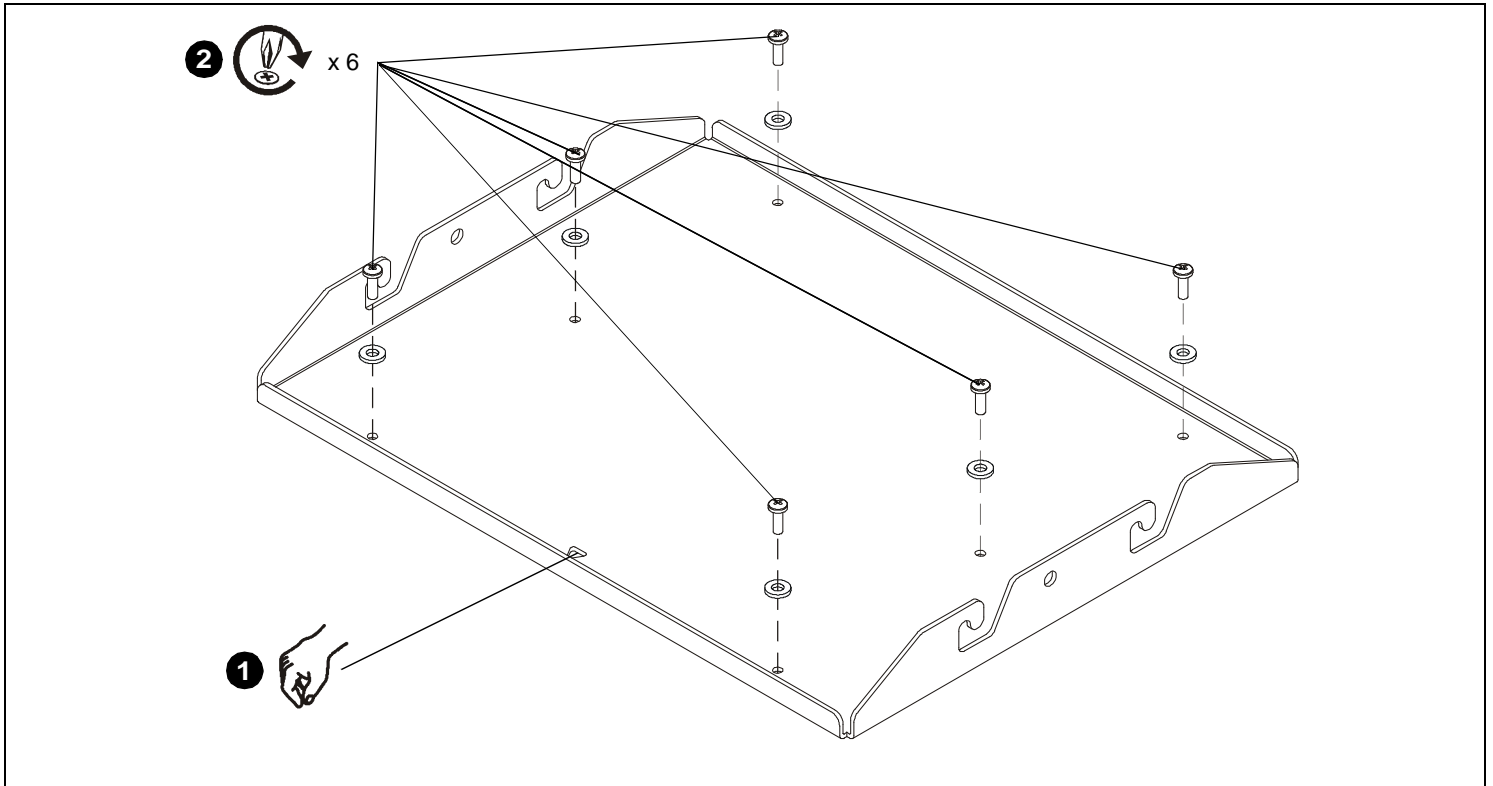

Figure 1
1. Lower custom HB bracket onto top of projector. Ensure that triangle in bracket points toward front of projector. (See Figure 1)
2. Attach HB bracket to projector using six M4 x 16mm Phillips pan head screws through six holes in the HB bracket. (See Figure 1)